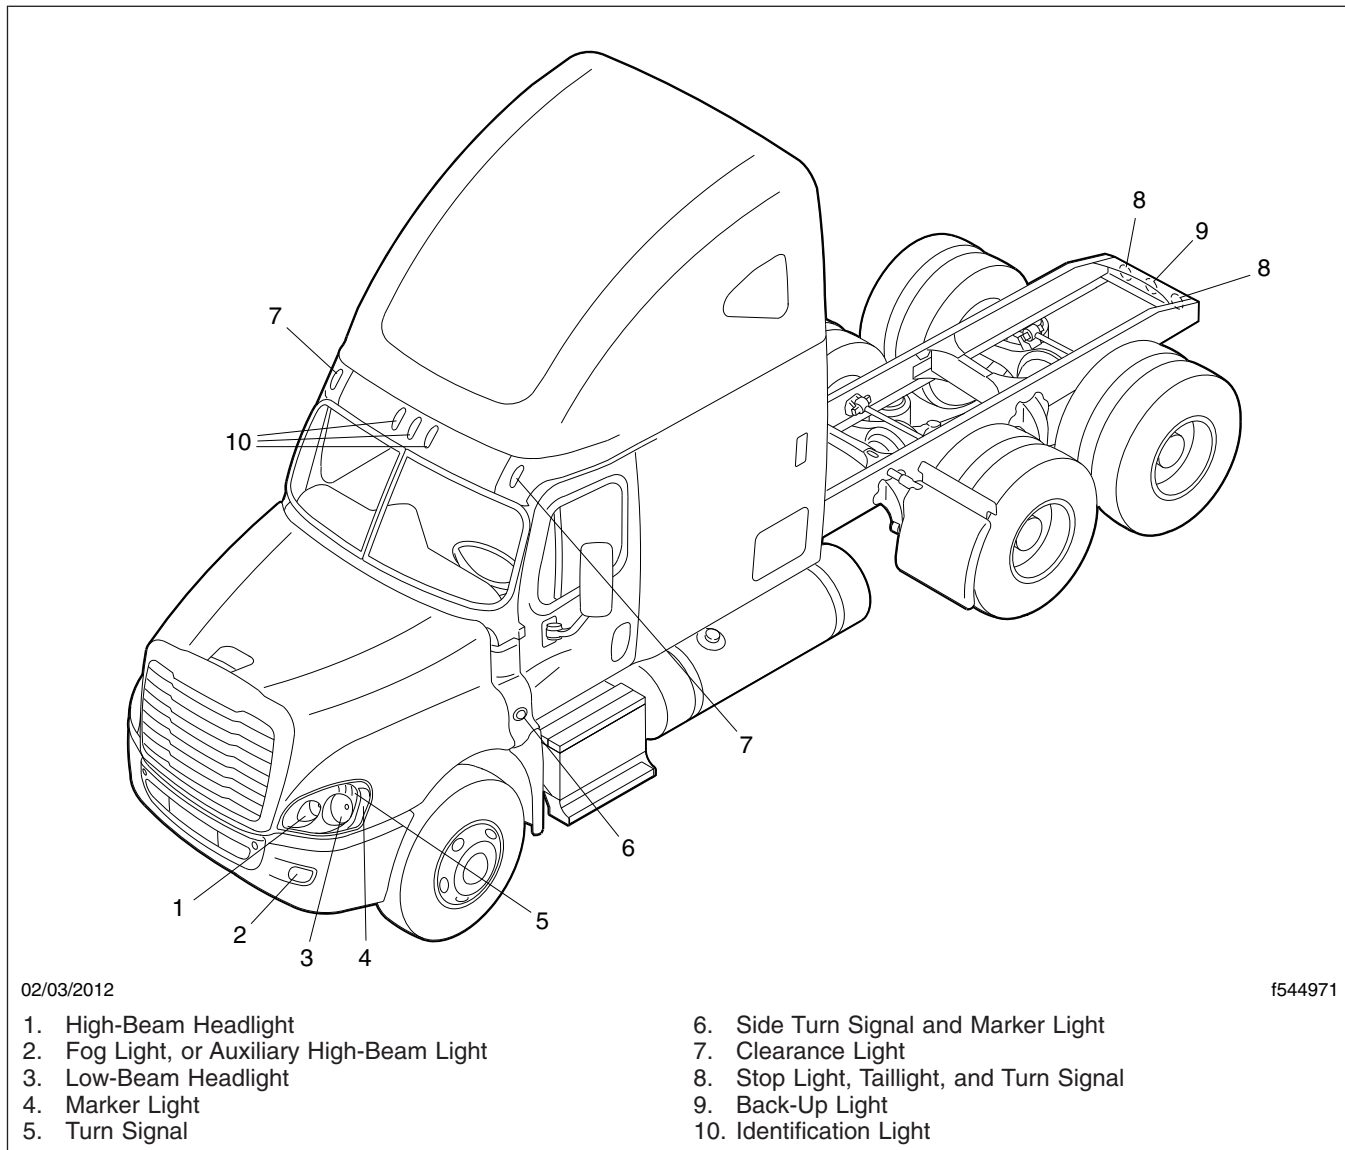

Fig. 21.7, Exterior Lights
11. Check the operation of all exterior lights. See Fig. 21.7.